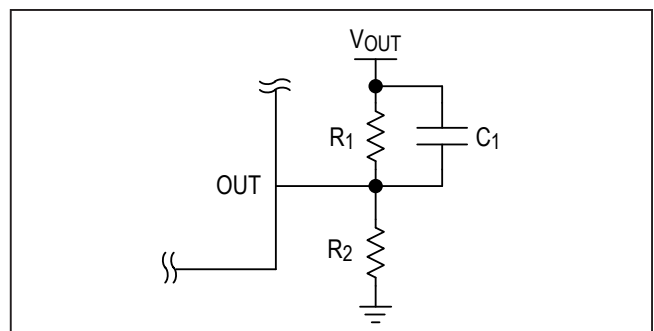
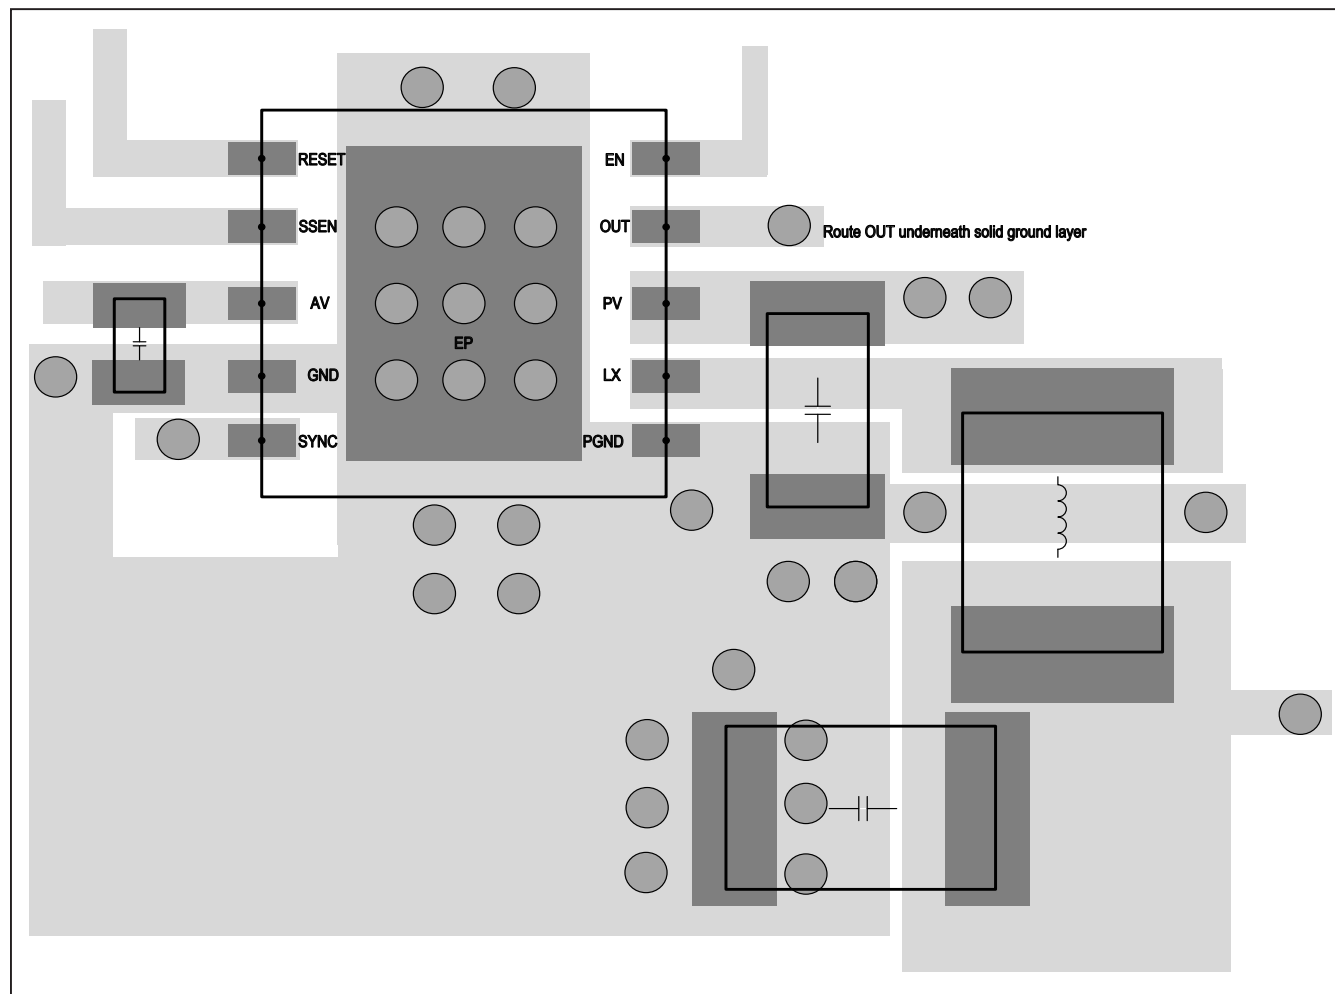

Figure 1. Adjustable Output-Voltage Configuration
Figure 2. Example Layout of IC and DC-DC Components
The devices' adjustable output-voltage version allows the customer to set the outputs to any voltage between 0.5V and approximately  $PV - 0.5V$  (see Ordering Information). The actual maximum output-voltage setting will be limited by the specific application conditions and components. Connect a resistive divider from the output capacitor ( $V_{OUT}$ ) to OUT to GND to set the output voltage (Figure 1). Select  $R_2$  (OUT to GND resistor)  $\leq 100k\Omega$ . Calculate  $R_1$  ( $V_{OUT}$  to OUT resistor) with the Equation 5.
- Place several vias in the exposed pad (EP) and connect them all to ground layers below the part. EP is attached to the die with epoxy, making it a good method for transferring heat out of the IC. An array of 0.3mm-diameter vias is recommended.
- The layer directly below the IC and DC-DC components should be a solid ground plane. Connect the GND and PGND pins of the device and components together with a low-impedance connection and add several vias to ground near those pins. Do not split the ground plane at or near the circuit. See Figure 2 for an example layout of the IC and DC-DC components.
| 1                  | 7/18             | Updated Typical Application Circuit, Absolute Maximum Ratings, Pin Description, Internal Block Diagram, Synchronization (SYNC), Input Capacitors, Inductor Selection, Figure 1, and added PCB Layout Guidelines and Figure 2 | 1,2, 5–10        |